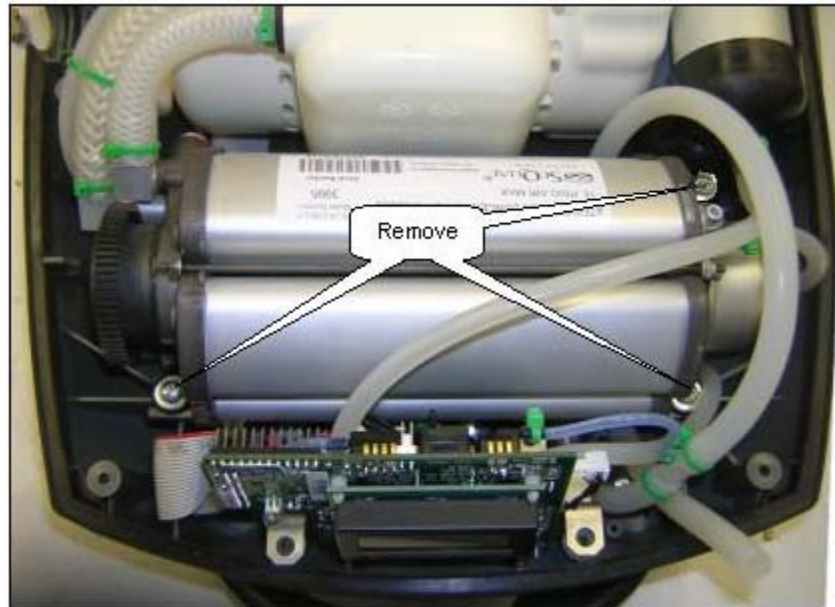

Figure 32: Remove ATF Module from Eclipse Case.
16. Mount the ATF with 3 M4x16 screws and 3 washers as shown on Figure 32 above. Apply Loctite® 425 Thread Locker on the threaded tips of the screws before installing. Tighten screws but **DO NOT** squash the grommets.